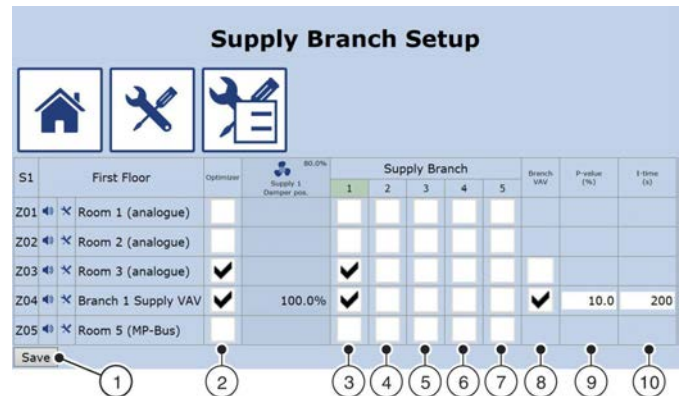

Fig. 37: Supply Branch Setup
⇒ The 'Supply Branch Setup' screen (Fig. 37) displays.
- 5. ▶ Go to the individual columns (Fig. 37 /3 – 7) to assign a common supply branch to the zone modules.
- 6. ▶ If you want to enter PI values, select the corresponding 'Branch VAV' (i.e. volume flow controller for the branch) (Fig. 37 /8).
- 7. ▶ Enter P values as percentages (Fig. 37 /9).
- 8. ▶ Enter the integration time in seconds (Fig. 37 / 10).
- 9. ▶ To optimise the supply branch for each zone module, check the appropriate boxes (Fig. 37).
- 10. ▶ Click on 'Save' (Fig. 37 /1).